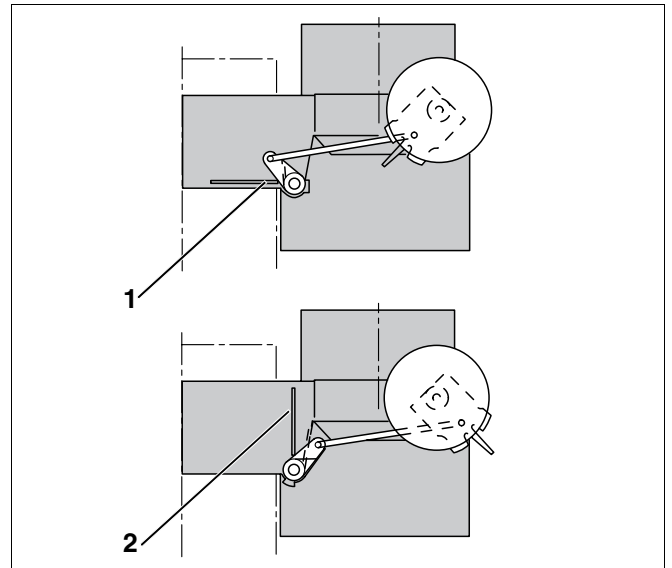

Fig. 13 Flue gas damper position
- Check the position of the flue gas damper on the setting of the actuator lever (Fig. 13).
- The gas burner must only start after the terminal position "OPEN" (Fig. 13, **Item 1**) has been reached.